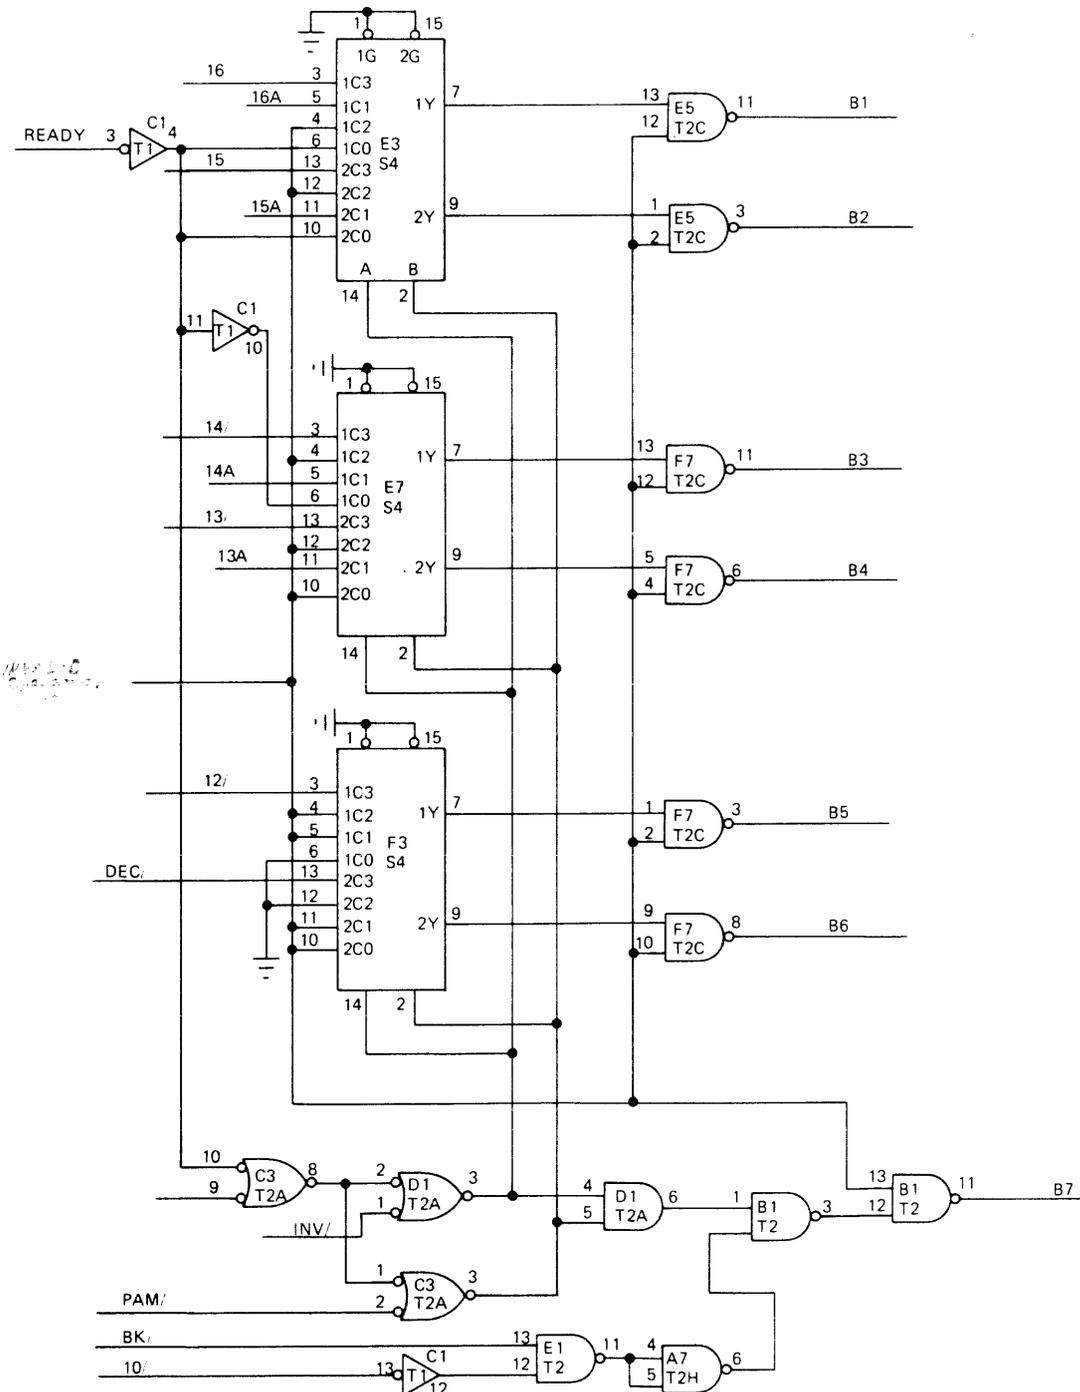

Fig. II-6 DATA SELECTION
Data to the printer may be any one of four groups of data from the IOC. Selection is achieved by a selection circuit and three S4 type IC's as depicted in Figure II-6. The S4 IC has two outputs, 1Y and 2Y. Each of these outputs can be enabled by any of its inputs, 1C0, 1C1, 1C2, 1C3 for 1Y and 2C0, 2C1, 2C2, 2C3 for 2Y. These inputs
If the printer's motor is off and a control word is sent to the IOC, the IOC will send a "motor on" command to the printer. This command word is generated by READY/ being high when the motor is off. As seen in Figure II-6, READY/ being high will cause signal POSELATP (A) and POSELBTP (B) to go low. S4 inputs A and B being low will select 1C0 and 2C0 inputs. (Motor Control) Table II-2 shows the data that is produced. The Dack Flip-flop, which enables the data strobe, is set by the previous ACK or by Clear if this is the first operation.
since the motor is on. READY/ being low will cause a motor off command word to be generated. See Figure II-6. Table II-3 shows the data that is produced.
When the IOC receives a paper motion control word, the selection circuit will select paper motion data to be enabled to the printer. This selection takes place due to signal POPAM/ being low after a PM CW is sent to the IOC. See Figure II-6 and Timing Chart II-2. POPAM/ low will cause signal POSELBTP to go low. POSELATP will be high since POREADY is high. POTMOUT/ is high and INV/ is high. POSELATP being high and POSELBTP low will select 1C1 and 2C1 inputs. As shown in Figure II-6, 1C1 and 2C1 inputs are paper motion data.
Signals POSELATP and POSELBTP will be high selecting 1C3 and 2C3 inputs. As shown in Figure II-6, 1C3 and 2C3 inputs are the outputs of the IOC data buffer. If during a data transfer a "DEL" character (7F) is detected (all LUMIR/ lines low), signal BK/ will go low causing B7 to go low. 1C3 and 2C3 inputs will still be selected. Since the data buffer outputs are all low for a "DEL" character (7F), the data lines B1 to B6 will be high to the printer. B1 to B6 high with B7 low will cause a "?" to be printed in that print position.